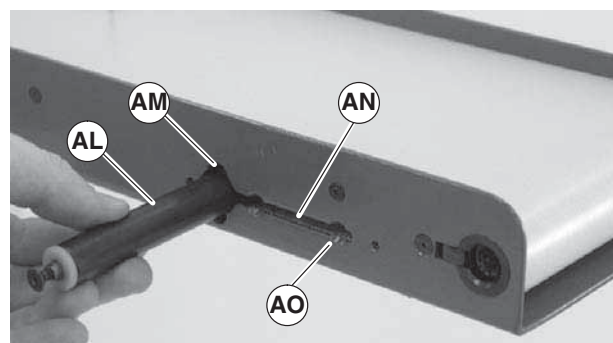

Figure 20
4. Slide tension pin assembly (Figure 20, item AL) along slot (AN) to hole in frame (AM). Remove tension pin assembly (AL) through hole.